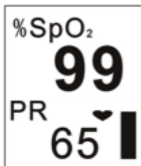
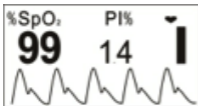
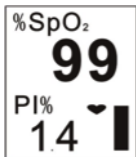

Figure 5
Figure 6
Figure 7
- Press Display Key twice, display screen will be changed as Figure 5.
- Press Display Key three times, display screen (as shown in Figure 5) will be flipped 180°.
- Press Display Key circularly, display screen will be switched between the two screens (as shown in Figure 4 and Figure 5), and four directions display alternately.
6. Longtime press Display Key (about 2 seconds), display screen will be shown as Figure 6. Differences between Figure 6 and Figure 4 are as follows:
- In Figure 6, SpO₂ and perfusion index are being monitored and displayed on the screen.
7. When the screen displays as shown in Figure 6, press Display Key circularly, the display screen will be switched between the two screens (as shown in Figure 6 and Figure 7), and four directions display alternately.
8. Display screen (as shown in Figure 6 or Figure 7) will return to the screen as shown in Figure 4 or Figure 5 if without operation in 10 seconds.